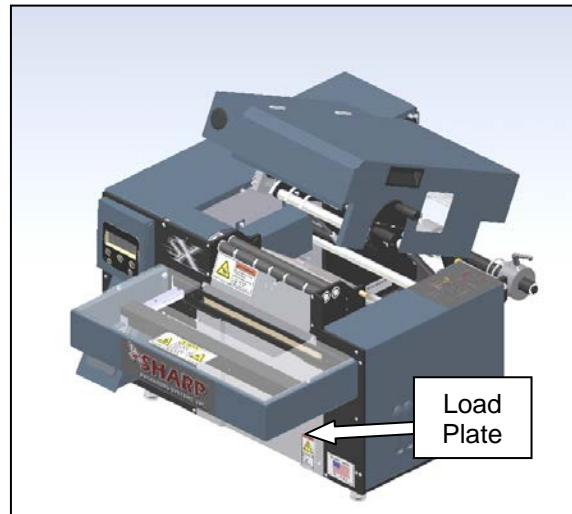

Figure 3-282. Guard Identification
1. Remove the motor covers and the load plate (see Figures 3-282, 283 and 284).